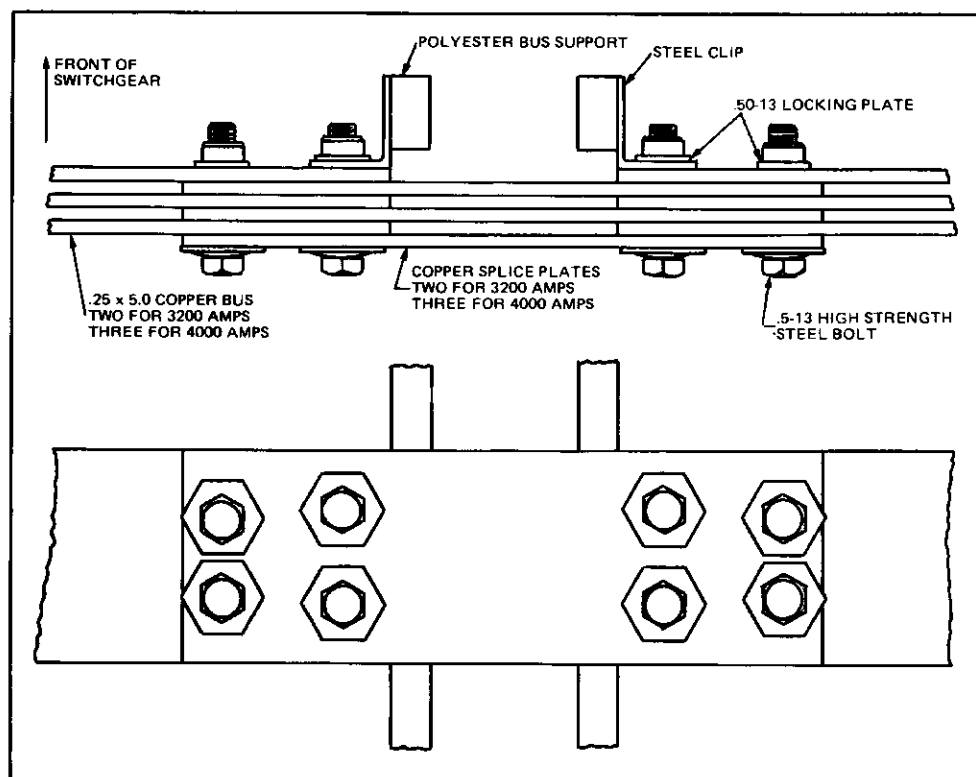

Fig. 40a Field Assembly of Joints in 3200/4000 Amp. Copper Bus
This rating employs two (2) .25 x 5.0 inch copper bars per phase and two (2) .25 x 5.0 inch copper splice plates per phase at each bolted joint. A total of eight (8) .50-13 high strength steel bolts and "Pyramidal" washers are used at each bolted connection. See Fig. 40a and 40b.
This rating employs three (3) .25 x 5.0 inch copper bars per phase and three (3) .25 x 5.0 inch copper splice plates per phase at each bolted joint. Otherwise the assembly is the same as the 3200 ampere rating. See Fig. 40a.